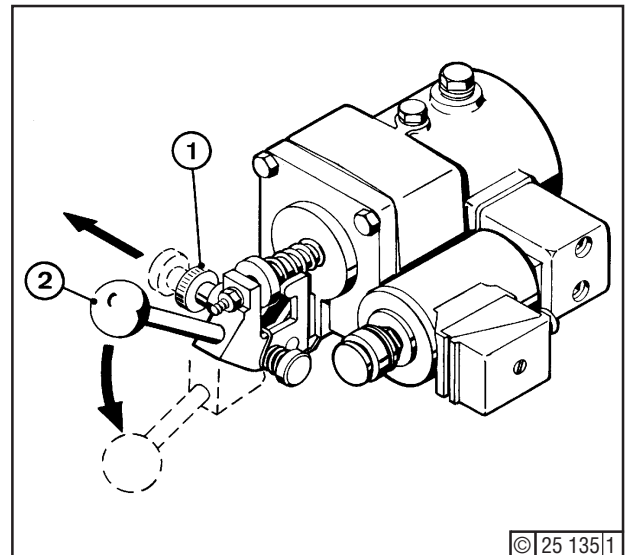

Fig. 2
Pull out locking device at knurled nut (1) - Fig. 2 -, and pull lever down. If the engine does not start after approx. 3 seconds, repeat starting procedure. If the engine fails to start after repeated starting attempts, determine the cause and remedy.